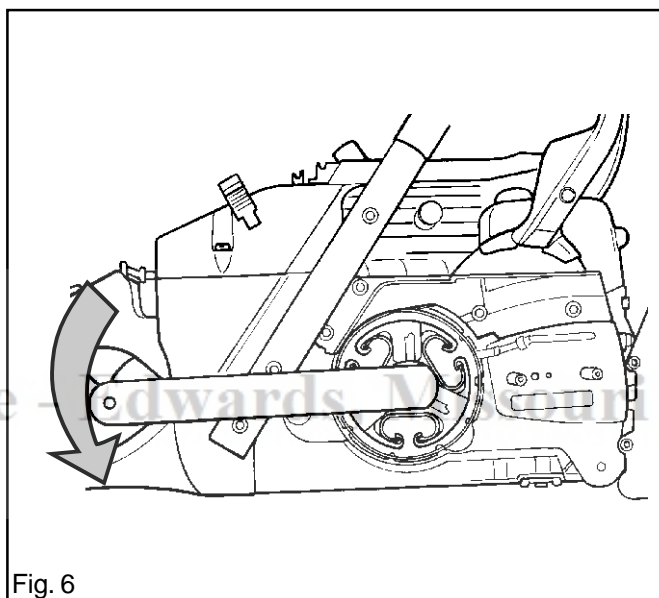

Fig. 6
See fig. 6.
4. The oil pump drive's worm gear should be undamaged. See fig. 6.